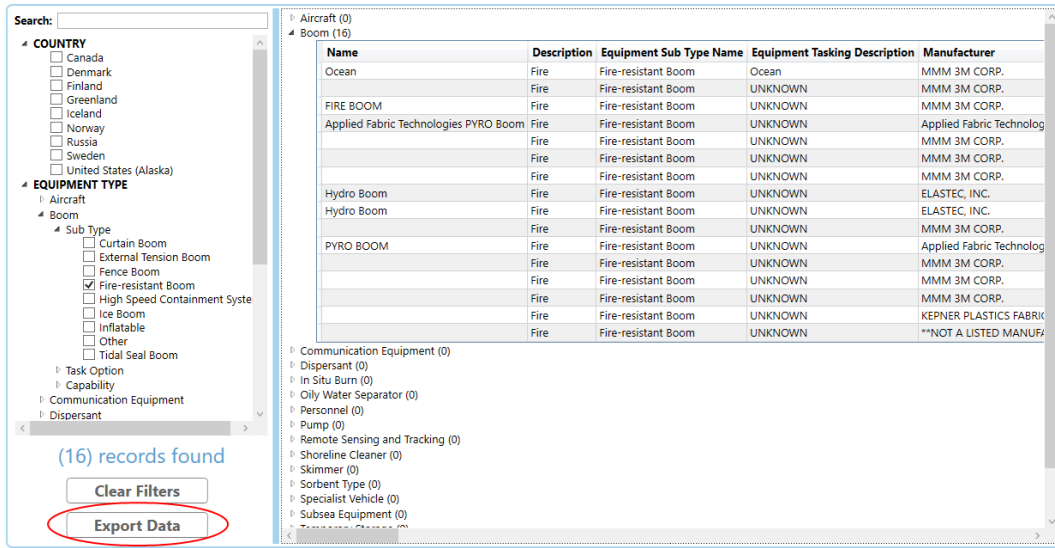

Figure 20- Export Data
2. Click the **Export Data** button at the bottom of the Filter panel (Figure 20).